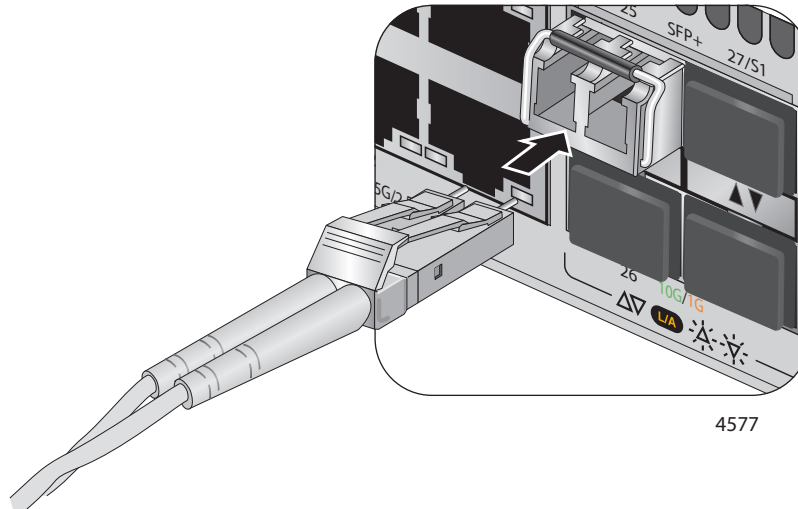

Figure 48. Connecting a Fiber Optic Cable to an SFP or SFP+ Transceiver
8. Connect the fiber optic cable to the transceiver, as shown in Figure 48. The connector on the cable must fit snugly into the port, and the tab must lock the connector into place.